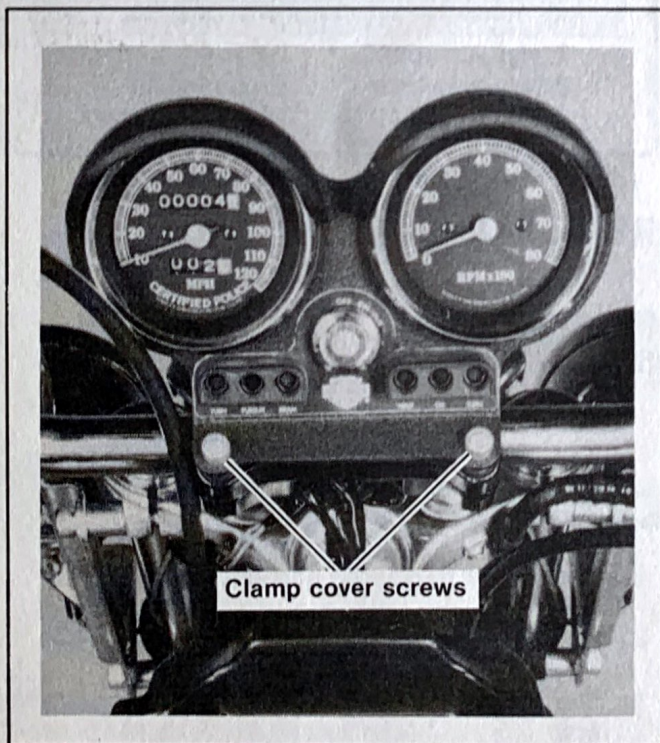

Figure 2-3. Instrument Removal
## REMOVAL (Figure 2-3)
2. See Figure 2-3. Install the instruments in the bracket.